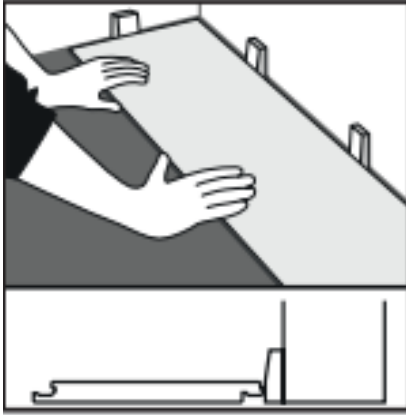

Figure 1
- 1) Starting with a full plank/tile along the wall, calculate how many widths there are across the room. If this means there will be a row of narrow planks/tiles along the opposite wall, cut the first row accordingly. Install this product with the tongue side/cut edge facing the wall. Install 3/16" (5 mm) spacers between the plank/tile and wall (Fig. 1)